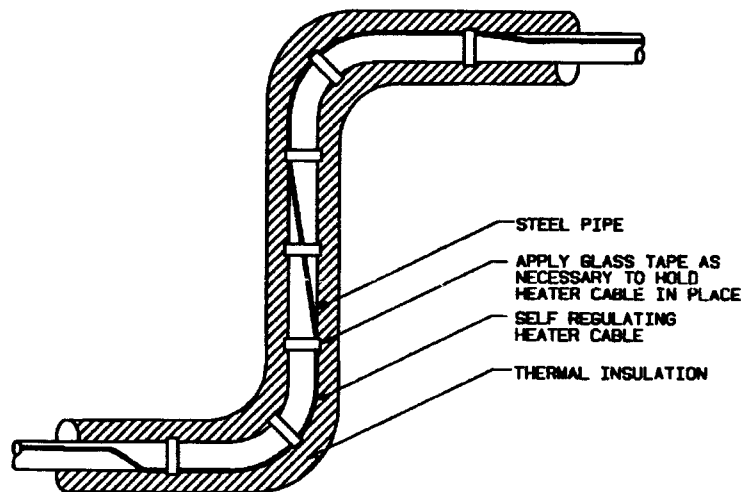

Figure 11 Heat Trace Installed Over Pipe Elbows
The position of the heat trace along horizontal pipe lengths is normally offset 45° from centerline on the lower side of the pipe. The installation of two (2) heat trace cables mounted on the same pipe requires that the heat trace be placed on opposite sides of the lower centerline 45° from the centerline. Heater Cable position is illustrated in Figure 11, *Heat Trace Installation on Horizontal Piping*.